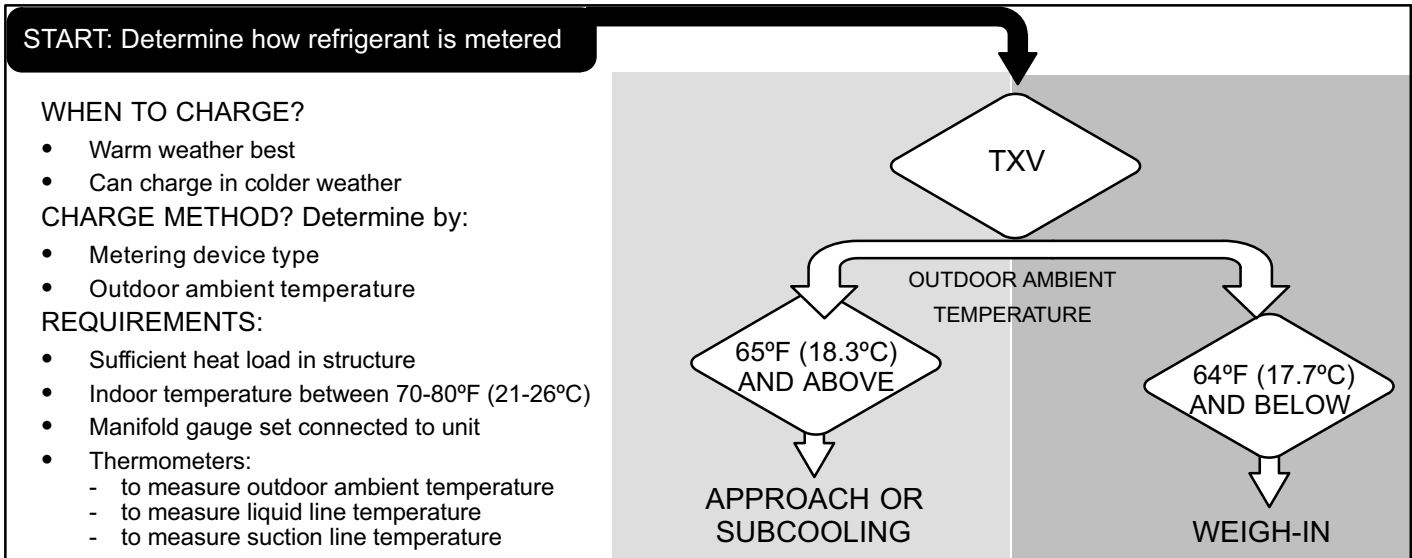

Figure 13. Determining Charge Method
2. Determine the best method for adding or removing refrigerant as outlined in figure 13.